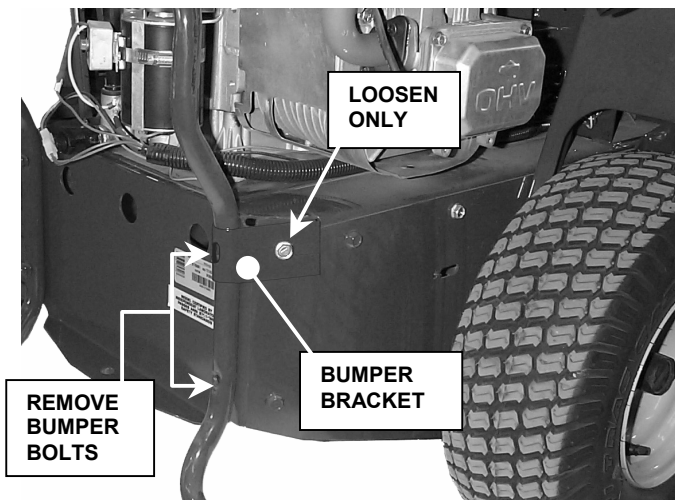

FIGURE 1.1
- A. Remove two right bumper bolts and loosen top right frame bolt. See Figure 1.1.
- C. Using two right bumper bolts removed in Step A, attach catcher support bracket and rear heat shield to the bumper. Tighten bolts securely. See Figure 1.1.